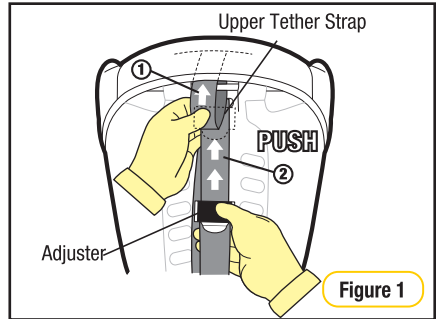

Figure 1
Step 1: Ensure the recline section is swung rearward (see Figure 1 & 2).
Step 1: Pull excess strap through the top section (1) whilst feeding the adjuster section (2) towards the seat (See Figure 1).